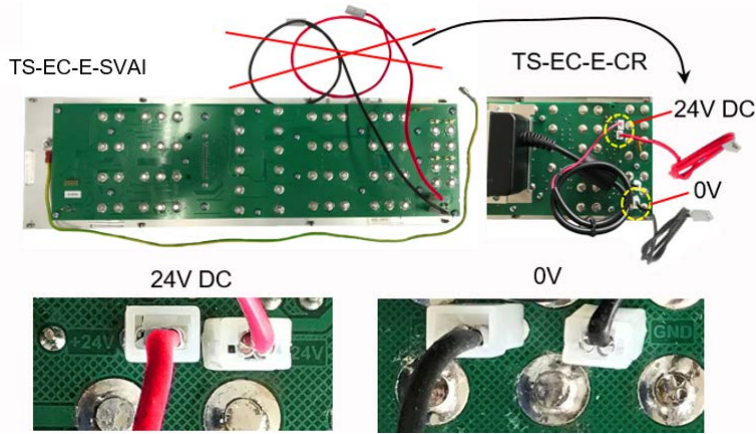

Figure 34: Connection of supply lines to operation unit TS-EC-E-CR
- ▶ Disconnect both supply lines (black and red) from the circuit board of the TS-EC-E-SVAI operating unit and plug them onto the circuit board of the TS-EC-E-CR operating unit according to the illustration (Fig. 34).